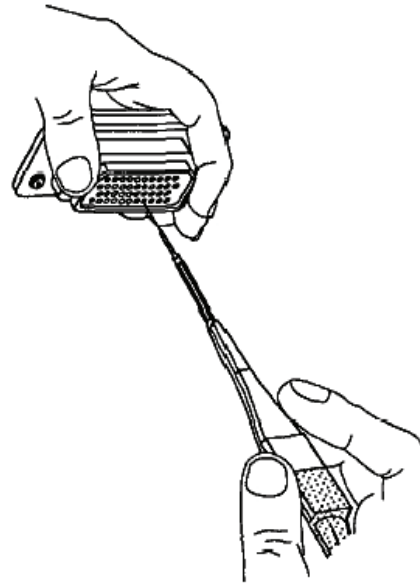

Figure 28. Broken Wire Contact Removal
h. Push contact completely out rear of connector before disengaging removal tool (Figure 28).